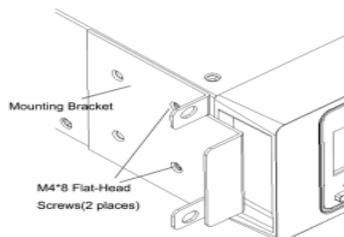

Figure 2 Installing the Mounting Brackets
- g) Align the mounting brackets with the screw holes on each side of the UPS and fix with the supplied M4×8 flat-head screws (see Figure 2)